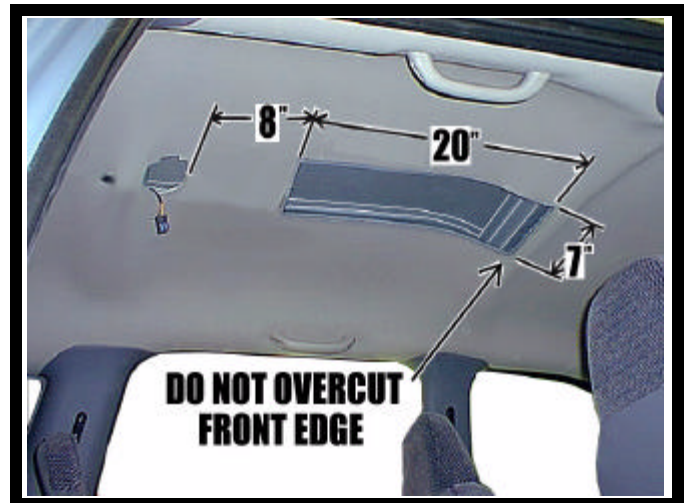

FIGURE 2
2. Using the front edge of dome light opening as a reference location, carefully measure & trim headliner as shown. **Caution: Before cutting headliner material, check for wiring or other componentry above headliner. Cut only where indicated.** Make sure that the 7" cut is centered left to right in vehicle. See Figure 2. **DO NOT OVERCUT HEADLINER.**
3. Scribe a center line on the sheet metal roof of the vehicle in front and rear of openings in headliner. This will be used for bracket alignment. See Figure 2.